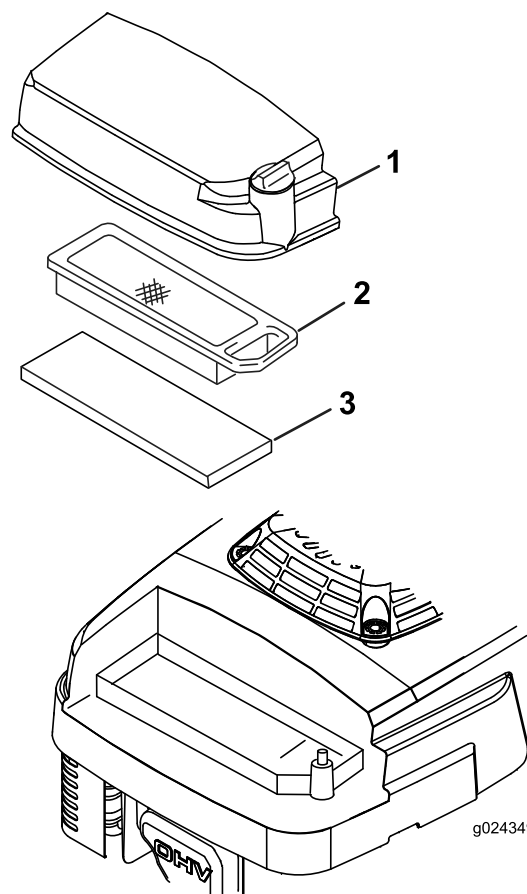

Figure 19
3. Loosen the screw on the air-filter cover (Figure 19).
5. Remove and inspect the paper air filter (Figure 19), and replace it if it is excessively dirty.
6. Remove the foam pre-filter (Figure 19) and wash it with a mild detergent and water, then blot it dry.